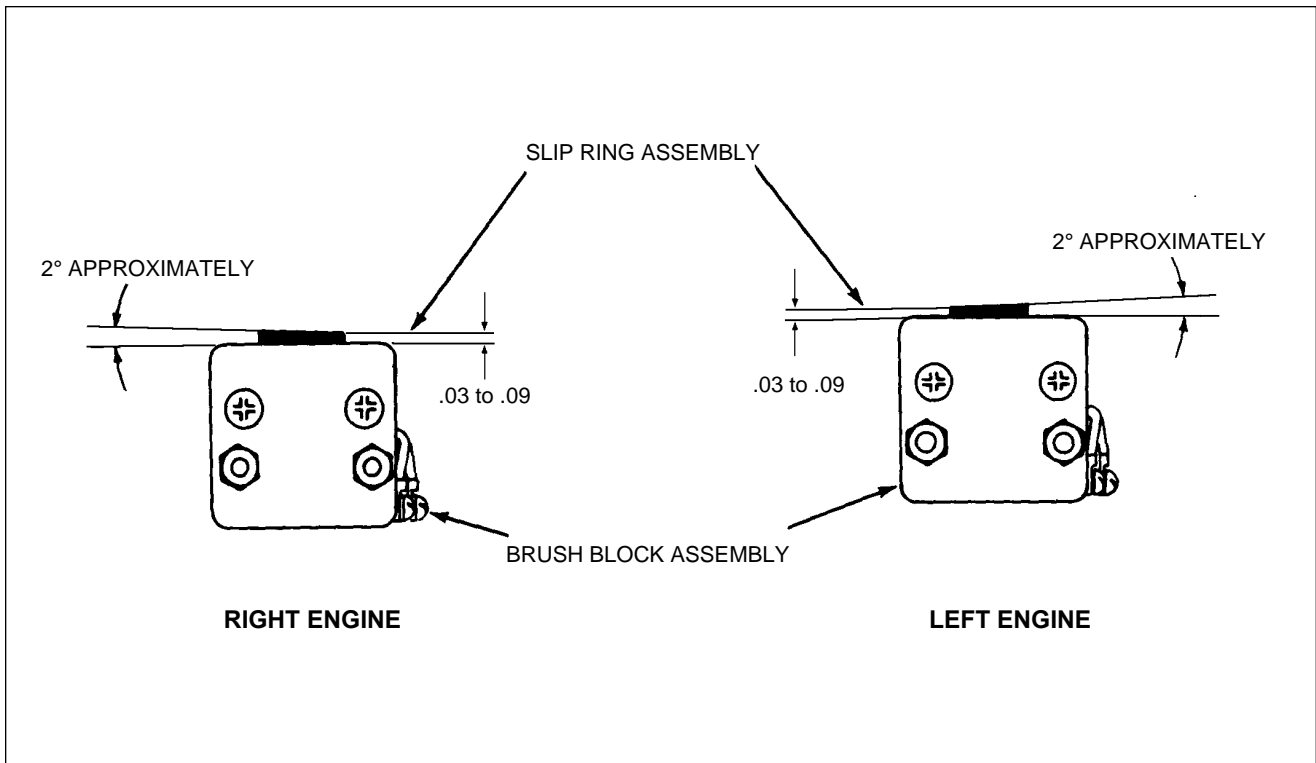
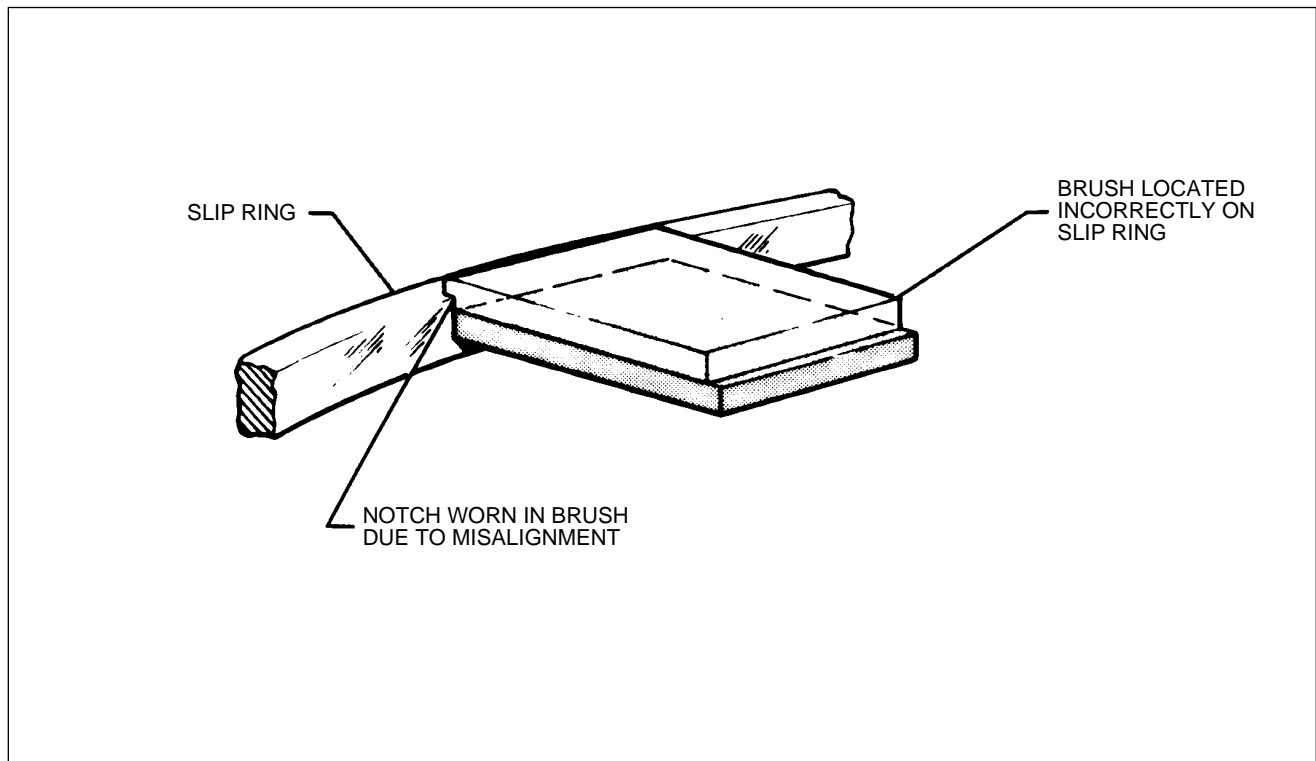

Figure 30-15. Tolerances for Brush Assemblies
Figure 30-16. Centering of Brushes on Slip Rings
- a. Test that each brush rides fully on its slip ring over 360°. Figure 30-16 shows the wear pattern if this condition is not corrected. If alignment is off, shim where brush block is mounted to bracket or adjust mounting bracket support arm.
- b. Check for proper clearance of brush block to slip rings as shown in Figure 30-15. If not correct, loosen mounting screws and move in elongated holes to correct block position before tightening securely.
- c. Visually check brush block for approximately 2° angle of attack. (Refer to Figure 30-15.) If not, loosen mounting screws and twist block, but be sure to hold clearance limits shown when tightening.
3. Restack modules and spacers as shown in Figure 30-15 or Figure 30-16. If there is interference between adjacent ring terminals, reorient center module as shown in Figure 30-14.